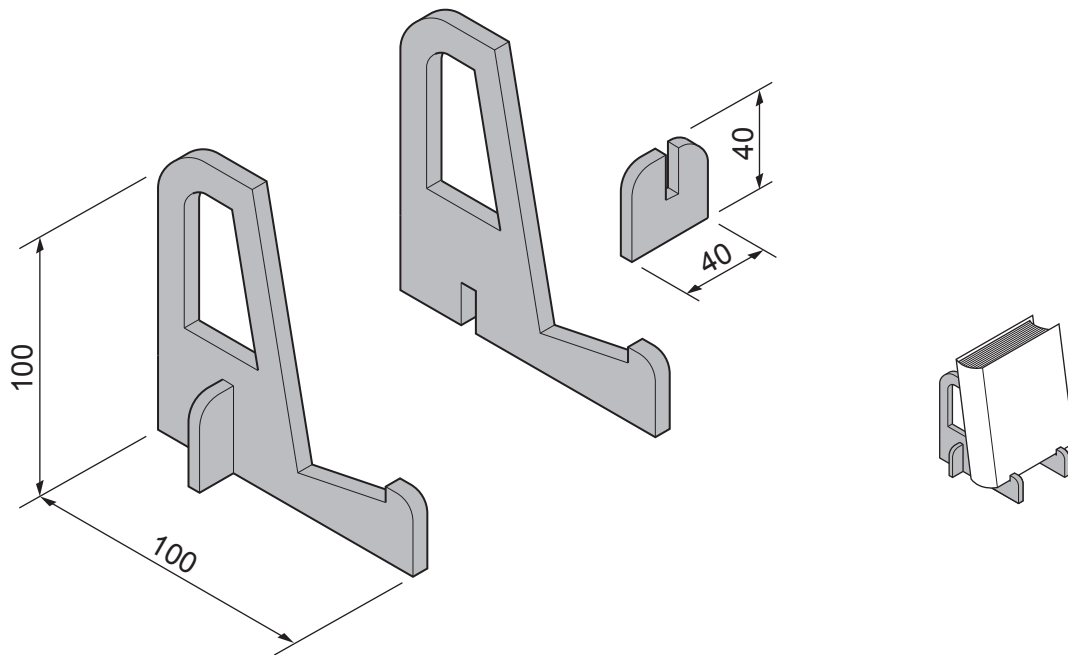
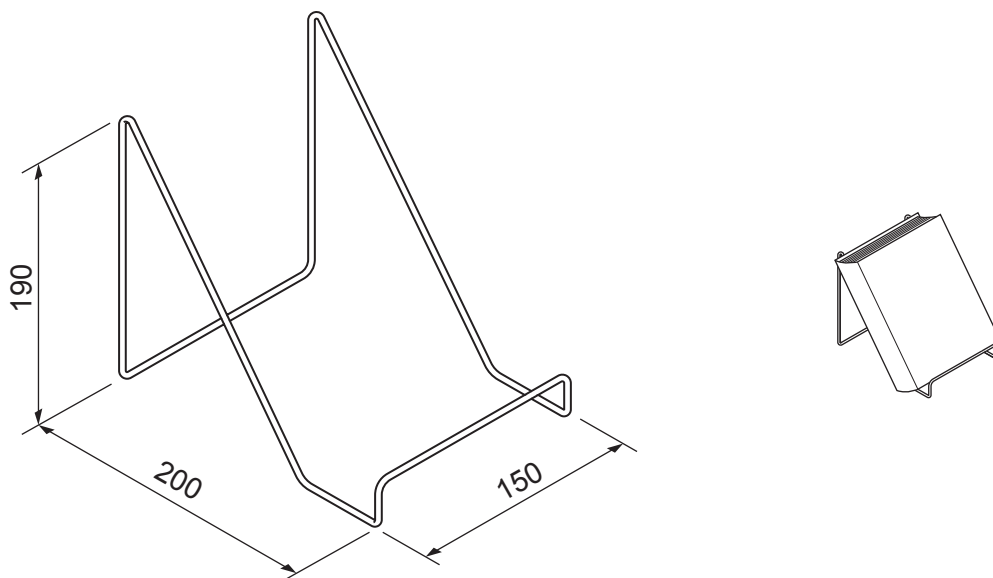

Fig. 12.1
Fig. 12.5
- 12 Fig. 12.1 shows a book stand that will be used to display books in a school library. The book stand is made from 5 mm thick acrylic and a batch of ten will be produced by hand in a school workshop.
- (e) Fig. 12.5 shows a different design for a book stand made from one length of Ø5 non-ferrous metal rod.
- (iii) Use sketches and notes to show how a single length of Ø5 non-ferrous metal rod could be bent to the shape of the book stand shown in Fig. 12.5.
- (f) Describe **one** different design feature of each of the book stands shown in Fig. 12.1 and Fig. 12.5.
Acrylic book stand Fig. 12.1
Metal book stand Fig. 12.5